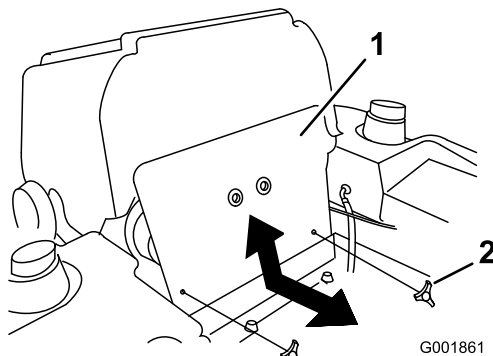

Figure 70
3. Tilt the seat forward and remove the front engine panel (Figure 70).
7. Install the front engine panel (Figure 70).